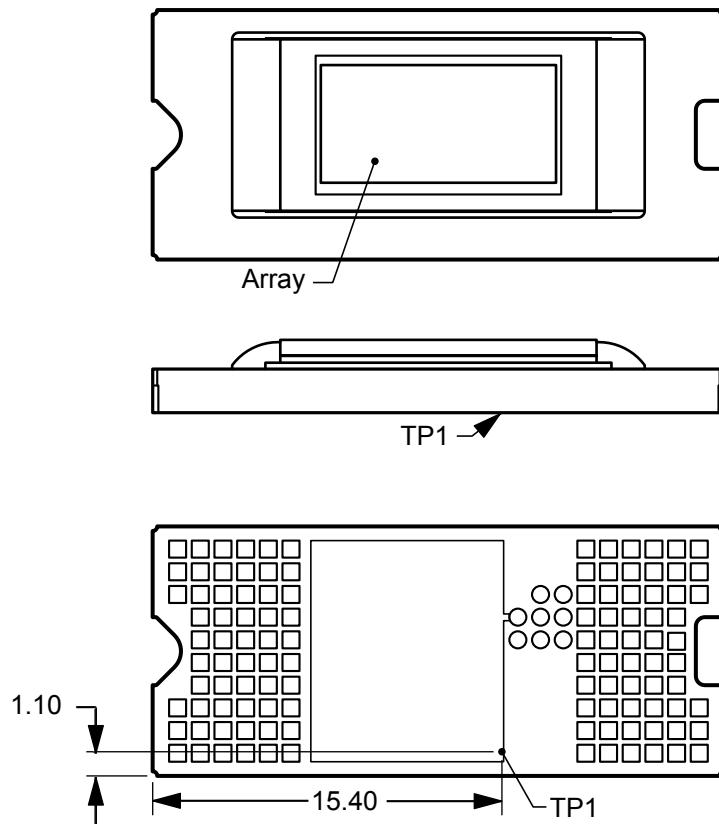

图 6-4. DMD Thermal Test Points
The active array temperature can be computed analytically from the thermal measurement point on the outside of the package, the package thermal resistance, the electrical power, and the illumination heat load. The relationship between array temperature and the reference ceramic temperature (TP1) in 图 6-4 is provided by the following equations:
- $T_{CERAMIC}$  = measured ceramic temperature at the TP1 location in 图 6-4 ( $^{\circ}\text{C}$ )
- $Q_{ARRAY}$  = total power (electrical plus absorbed) on the DMD array (W)
- $Q_{ELECTRICAL}$  = nominal electrical power dissipation by the DMD (W)
- $Q_{ILLUMINATION}$  = absorbed illumination heat load (W)
- $Q_{INCIDENT}$  = incident power on the DMD (W)